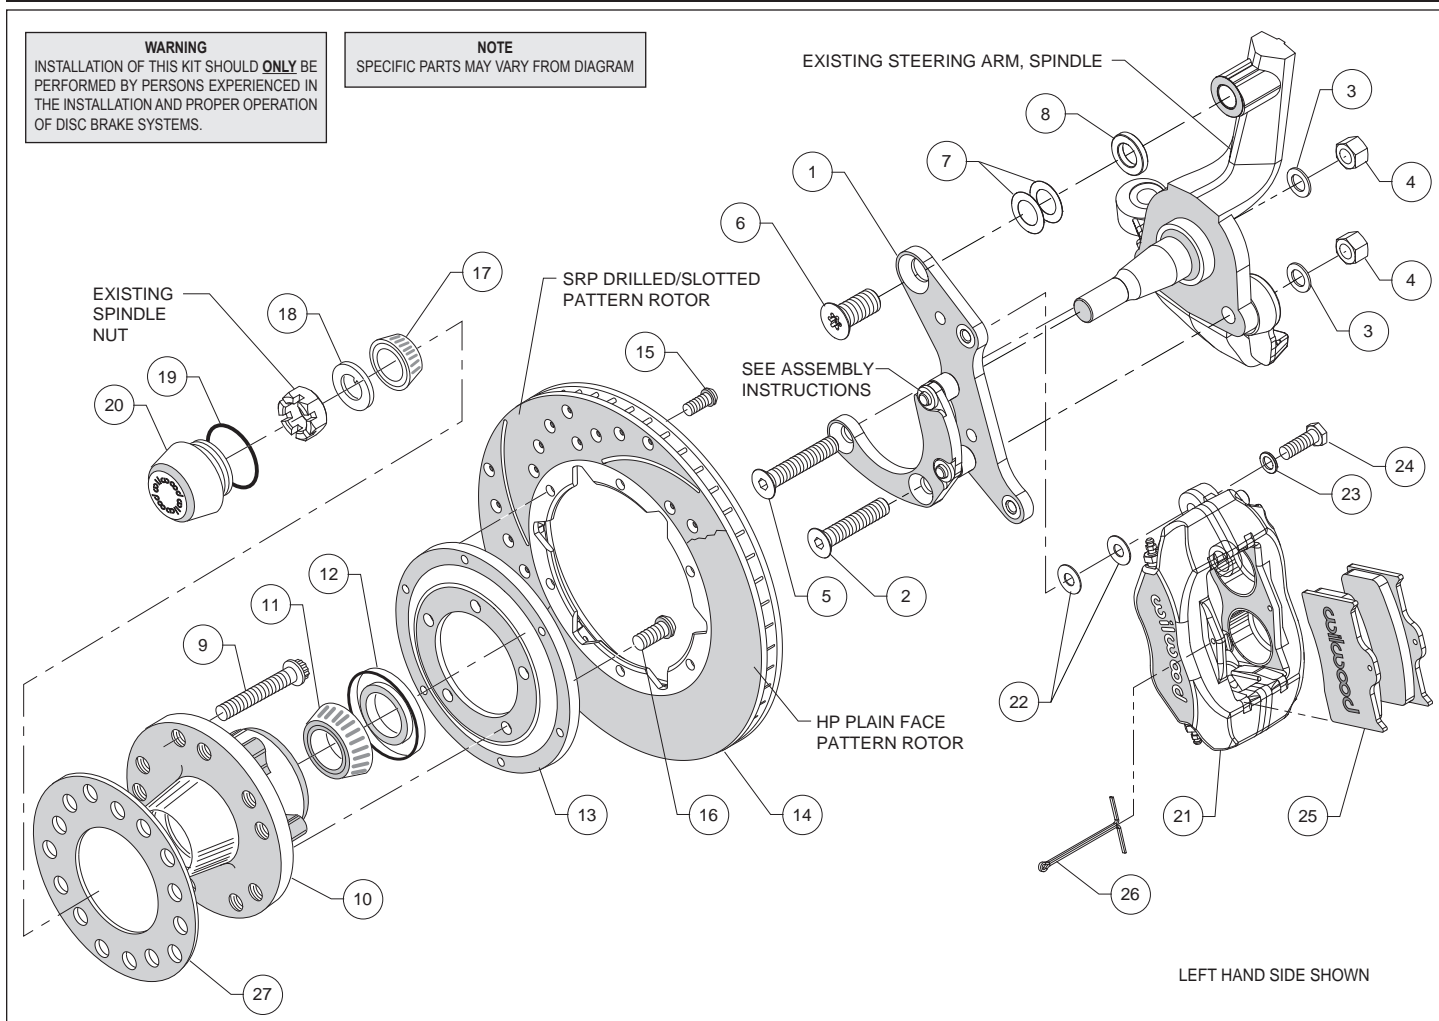
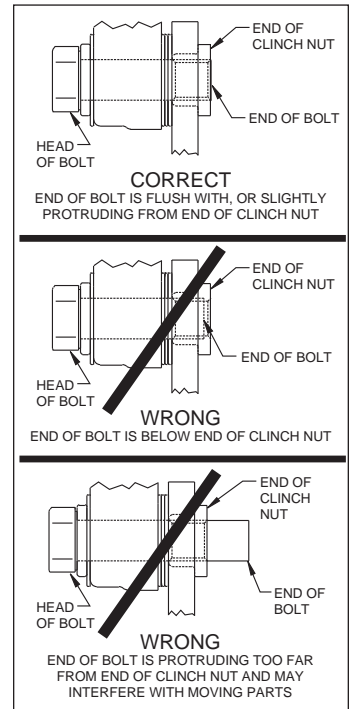

Figure 1. Typical Installation Configuration
Figure 3. Clinch Nut Engagement Diagram
Assembly Instructions (numbers in parenthesis refer to the parts list and Figure 1 on the preceding pages): **CAUTION:** All mounting bolts must fully engage clinch nuts. Be sure to check that all bolts are either flush or protruding through flanged side of clinch nut after shimming, Figure 3.
•The caliper mounting bracket (1) has been assembled at the factory for alignment purposes. Loosen the two bolts that secure the brackets together so that the bolts are hand tight only, this will enable the bracket assembly to be adjusted to accommodate various spindle tolerances during assembly. Align bracket with the two lower holes on the spindle face and attach using bolts (2 and 5), washers (3), and secure using nuts (4), as shown in Figure 1 and Photo 1. Install bolt (6) through top of bracket while placing spacer (8) and shims (7) between bracket and spindle, Figure 1. Initially place two .010" thick shims (7) on the top bolt between the bracket and upright, Figure 1. Temporarily tighten the mounting bolts. Ensure that the flanged heads of the clinch nuts in the bracket are facing outboard, Photo 1. **NOTE:** The bracket must fit squarely against the mounting points on the spindle and be parallel with the mounting face. If not, add or subtract shims (7) on the top bolt between the bracket and spacer. Inspect for interference from casting irregularities, machining ridges, burrs, etc. Remove lower bolts one at a time, apply red *Loctite*® 271 to the threads, and torque nuts to 77 ft-lb. Remove the upper bolt, apply red *Loctite*® 271 to threads, and torque to 140 ft-lb. Remove one at a time the bolts that secure the bracket assembly to each other, apply red *Loctite*® 271 to the threads and torque to 40 ft-lb.
- Install the grease seal (12) by pressing into the backside of the hub (10), flush with the end of the hub, Photo 3.
- Orient the rotor (14) and the rotor adapter (13) as shown in Figure 1 and Photo 4. Attach the rotor to the adapter using bolts (15). Using an alternating sequence, apply red *Loctite*® 271 to the threads, and torque to 25 ft-lb.
- Mount the adapter/rotor assembly (13/14) to the hub (10) using bolts (16), as shown in Figure 1 and Photo 5. Using an alternating sequence, apply red *Loctite*® 271 to the threads, and torque to 55 ft-lb.
- Pack the small outer bearing cone (17) with high temperature disc brake bearing grease and install into hub (10). Slide the hub/rotor assembly onto the spindle. Secure using spindle washer (18) and OEM spindle nut, Photo 6. Adjust bearings per OEM specifications. Install saved OEM nut lock (if any) and a new cotter pin (not supplied).
- Screw dust cap (20) into hub (10), Photo 7. Friction created by the o-ring (19) on the dust cap keeps it from unscrewing. **NOTE:** The O.D. of the existing OEM spindle washer may be larger than the I.D. of the dust cap not allowing it to seat against the hub face. Therefore, use the spindle washer (18) supplied with the kit instead of the OEM washer.
- NOTE:** Please reference the caution statement at the beginning of the assembly instructions. Mount the caliper (21) onto the caliper mounting bracket (1) using bolts (24) and washers (23), as shown in Figure 1. Initially place two .035" thick shims (22) on each bolt between the caliper and the bracket, Photo 8. Temporarily tighten the mounting bolts and view the rotor (14) through the top opening of the caliper. The rotor should be centered in the caliper, Photo 9. If not, adjust by adding or subtracting shims between the bracket and the caliper. Always use the same amount of shims on each of the two mounting bolts. **NOTE:** The end of each bolt must be flush with or slightly protruding from the head of the clinch nut, as shown in Figure 3. If necessary place spare shims between washer (23) and caliper mounting ear to achieve the proper clinch nut engagement. Once the caliper alignment and clinch nut engagement are correct, remove the bolts one at a time, apply red *Loctite*® 271 to bolt threads, and torque to 40 ft-lb.
- Install the disc brake pads (25) into the caliper, with the friction material facing the rotor (14), and secure in place using cotter pin (26), Photo 10.
- Temporarily install wheel and torque lug nuts to manufacturer's specification. Ensure that the wheel rotates freely without any interference. **NOTE:** Wheel spacer (item 27) **MUST** be used if any wheel contact surfaces overhang the outside diameter of the hub face. See warning on page 3.